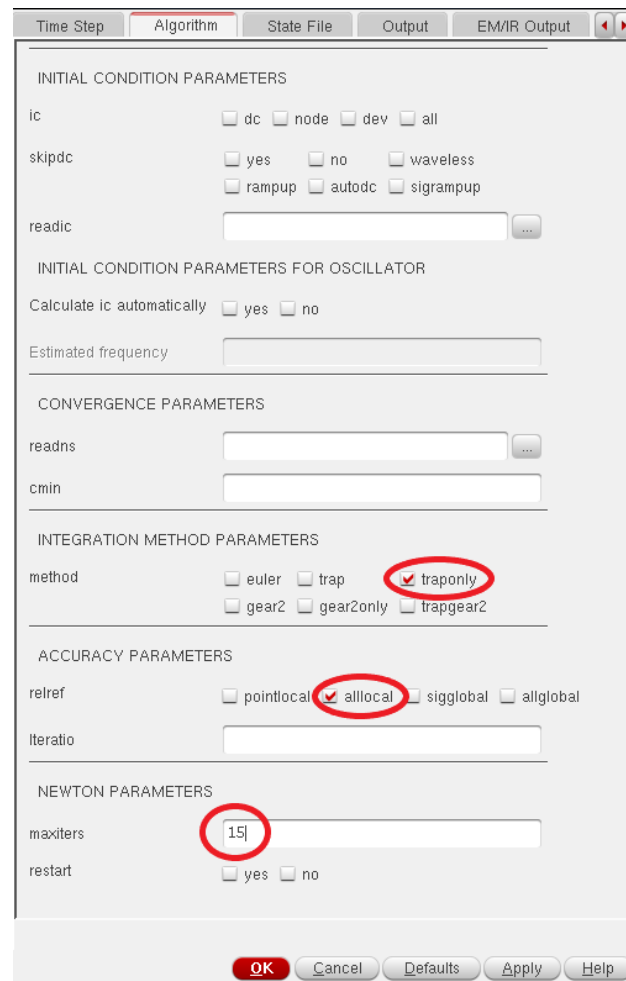

Fig. 4: Transient options
- Go to Analyses → tran → Options → Algorithm and configure it according to Fig. 4, then press OK.